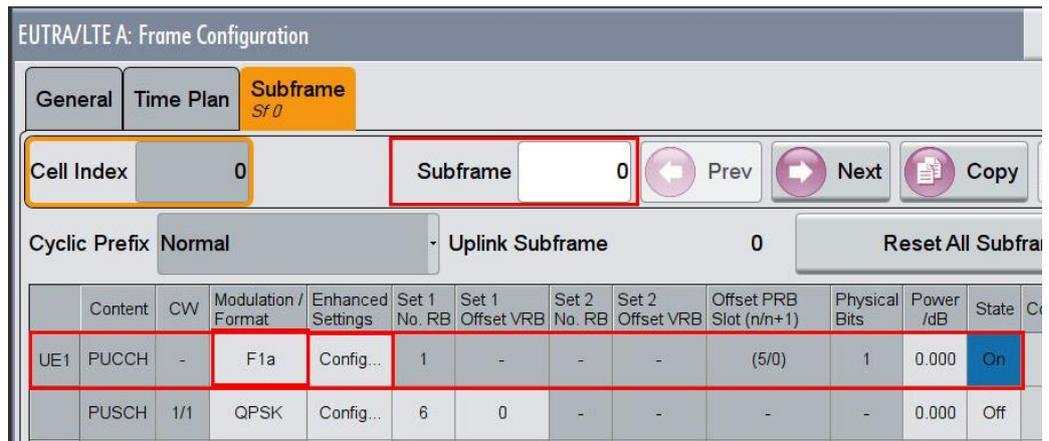

Fig. 3-107: PUCCH with format F1a in subframe 0
14. Set for the PUCCH the Format to **F1a** and the state **On** (Fig. 3-107)